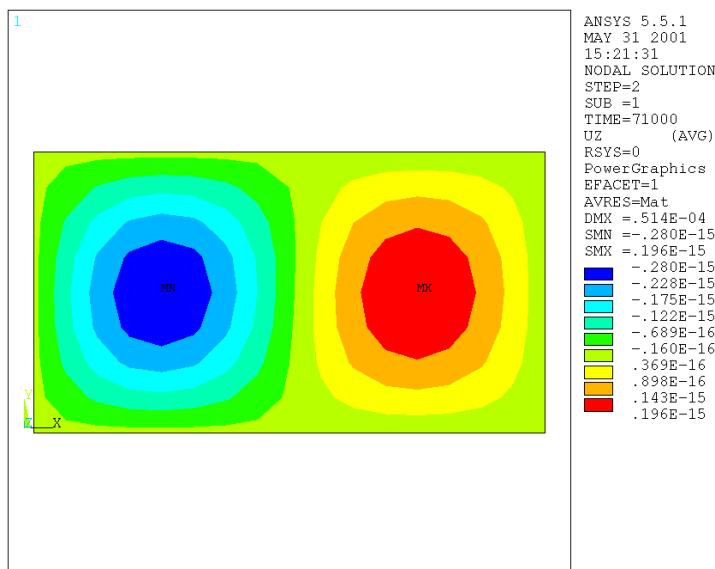

Figure 8.1
5. To see the rest of the results, under the '-Read Results-' heading on the General Postprocessor menu, click 'Next Set', then repeat steps 2-4 above. From the contour plots of UZ, the plate appears to buckle at a load between 70 kN/m and 71 kN/m (time—load—is shown at the right side of the window). The plot at 71 kN/m is shown in Figure 8.1.